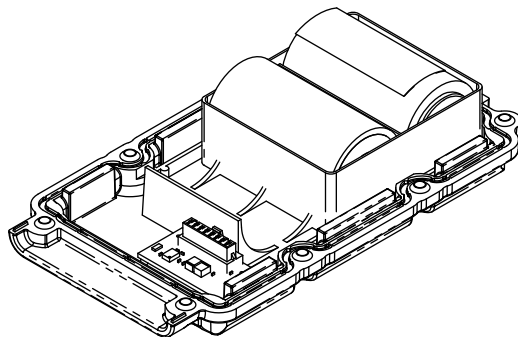

Figure 5 Battery Pack Assembly
- (4) The battery pack for the ME406 Series ELT consists of two "D" size lithium manganese dioxide cells connected in series. To prevent the cells from being charged, diodes are connected across each cell and fuses are connected to the output. See Figure 5 Battery Pack Assembly.